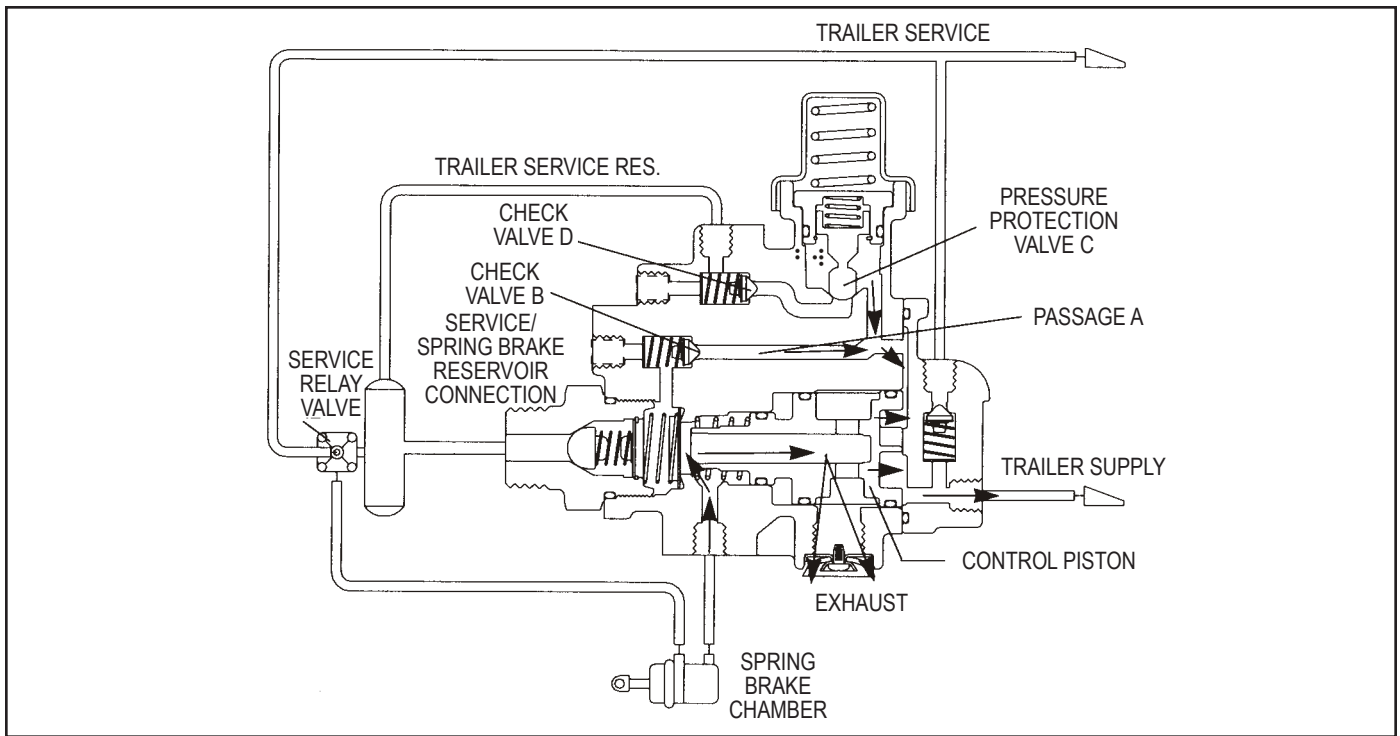

Figure 5 - Park Application
**PARK APPLICATION (SEE FIGURE 5)**